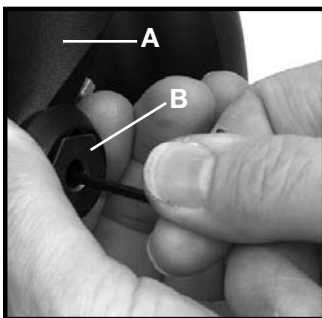
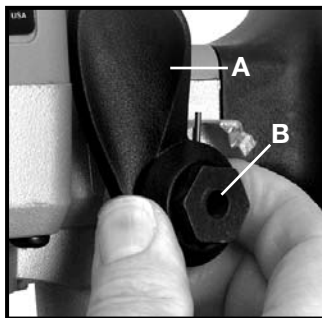
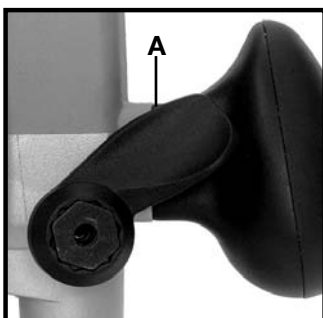
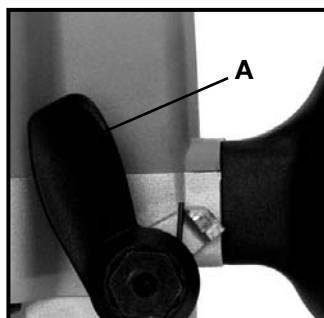

Fig. 16
Fig. 17
Fig. 18
Fig. 19
1. Hold the plunge-locking lever (A) Fig. 16.
2. Insert $\frac{1}{8}$ " allen wrench (not furnished) through the center of the plunge-locking bolt (B) Fig. 16 into the adjustment screw, and turn counterclockwise approximately one turn.
3. Push in on the plunge-locking lever (A) Fig. 17 to expose the head of plunge-locking bolt (B) Fig. 17.
4. While holding plunge-locking lever in (A) Fig. 17, turn plunge-locking bolt (B) Fig. 17 clockwise to turn the plunge-locking bolt in or counterclockwise to turn the plunge-locking bolt out. Turn it one position at a time until proper adjustment is achieved. Proper adjustment is indicated when the plunge-locking lever (A) Figs. 18 and 19 can be locked into the free motion position (Fig. 18), and into the plunge-locked position (Fig. 19).
5. Move plunge locking lever (A) Figs. 18 and 19 to the center of those 2 positions. Insert the allen wrench through the center of the plunge locking bolt (B) Fig. 16 into adjustment screw. Turn clockwise to tighten.